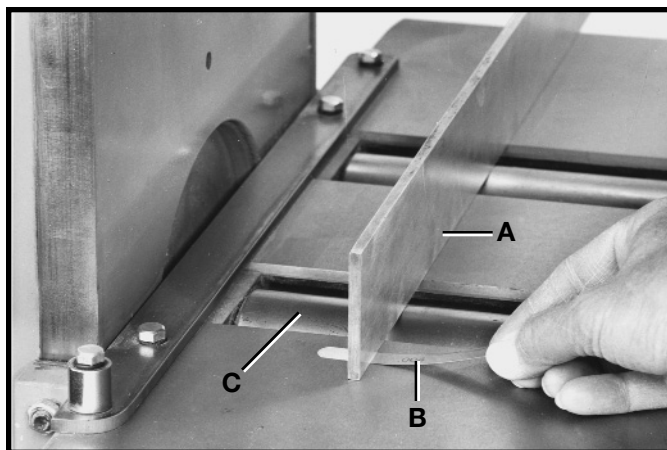

Fig. 23
3. With a feeler gage Fig. 23, measure the gap between the table surface and the straight edge (A) near the infeed roller (C).